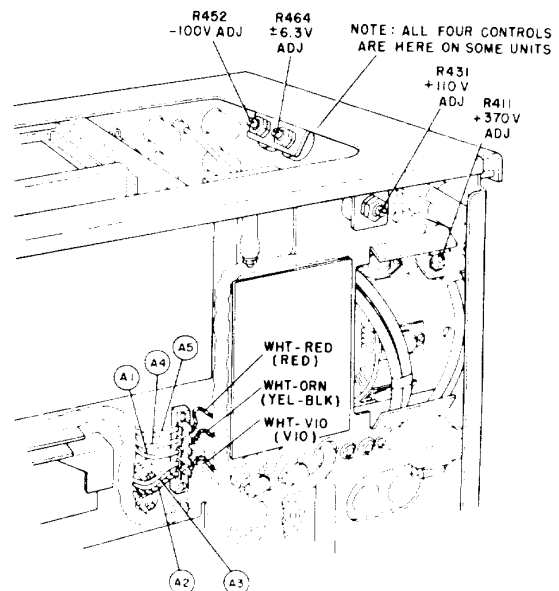

Figure 5-2. Location of Low-Voltage Power Supply Adjustments
a. LOW-VOLTAGE POWER SUPPLY ADJUSTMENT. Location of adjustments in the low voltage supply is shown in figure 5-2. Test points are shown in table 5-3 and figure 4-14.
(o) Connect a jumper from the junction of R143 and the white/yellow/violet wire on the etched circuit board A101 (see figure 5-17) to test point A3 at the white/violet wire (see figure 5-2).